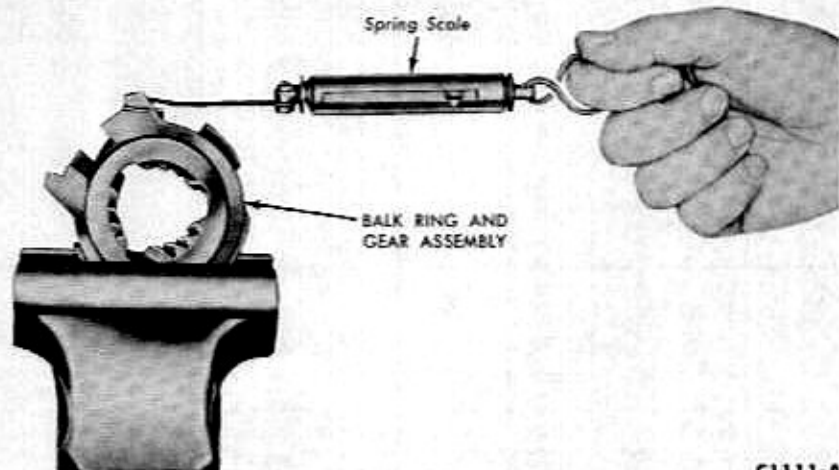

FIG. 10—Balk Ring Tension Check
Check the balk ring tension, as shown in Fig. 10, for the specified pull. Read the spring scale while the balk ring is turning because the initial effort required to turn the ring may be considerably higher than the specified pull. Replace the assembly if the tension is not within specification.
17. Install the overdrive shift rail and fork assembly and sun gear at the same time (Fig. 10). Install the snap ring in the transmission output shaft groove at the rear of the sun gear.